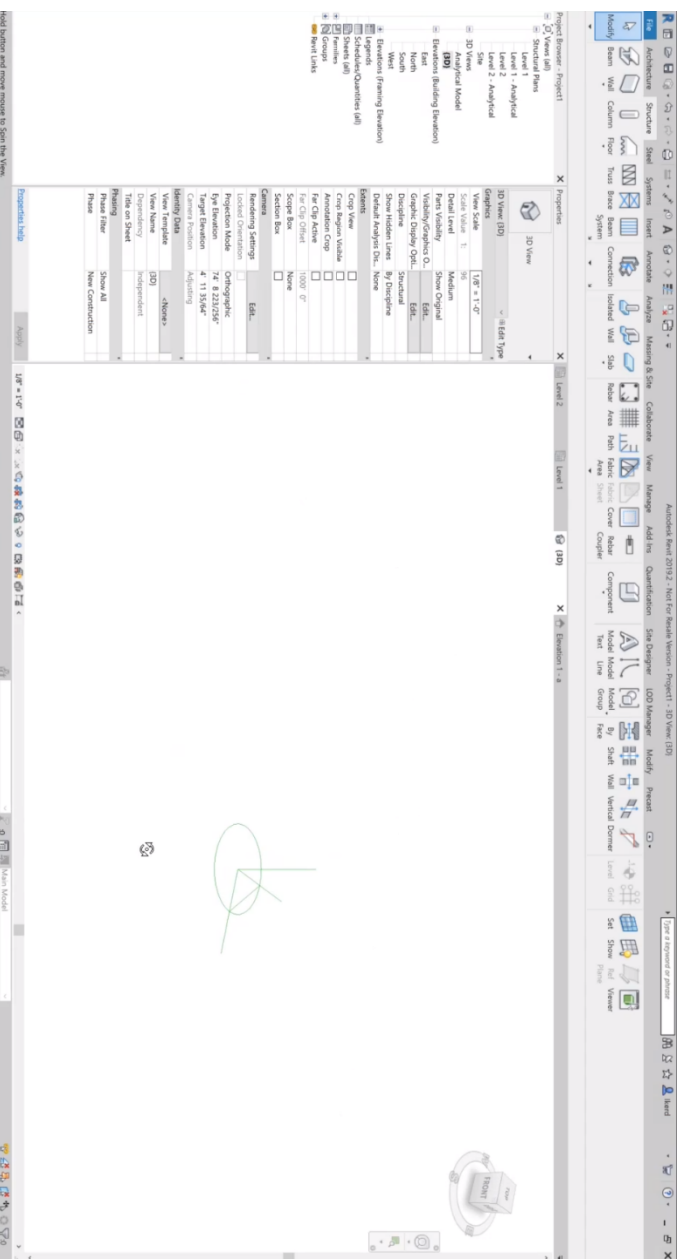

Figure 5
4. Create a new 3D view from the quick access toolbar to view the 3D origin (Figure 5).